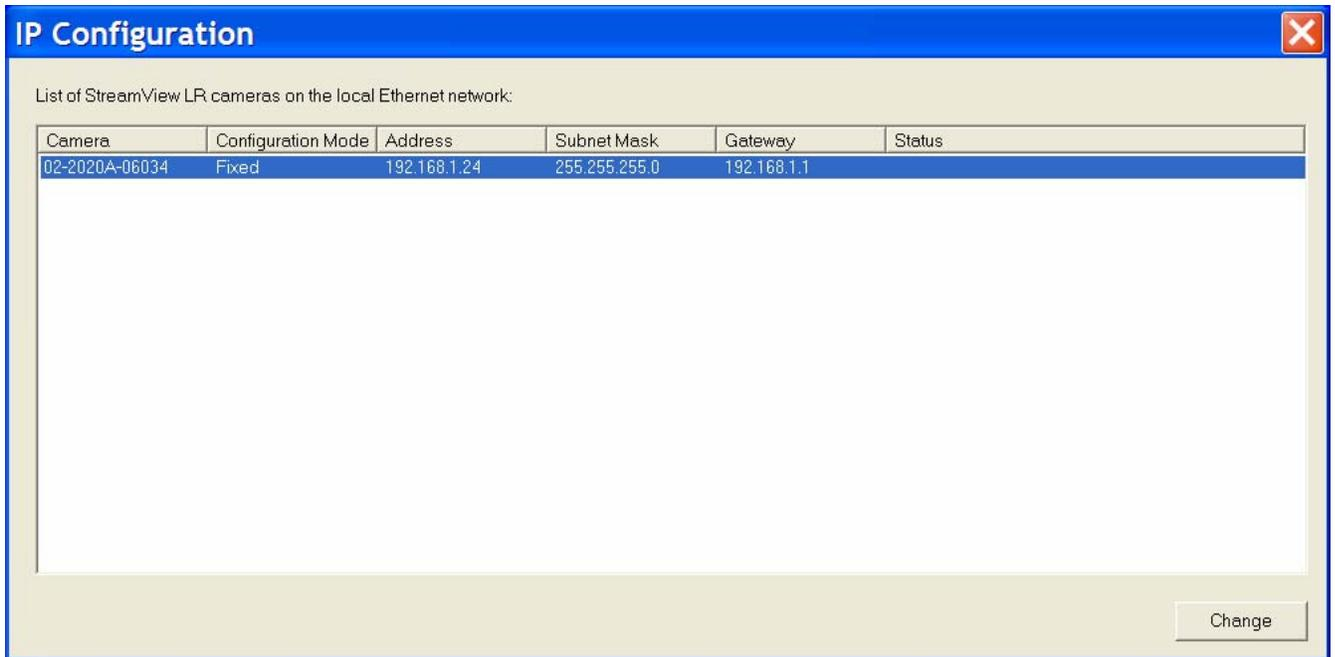
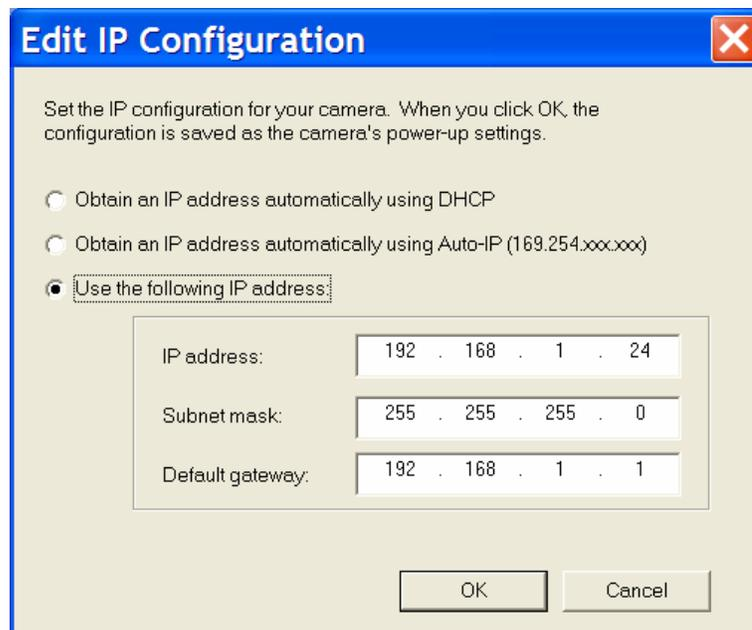

Figure 2 StreamView-LR network configuration auto-discovery window.
Figure 3 Editing StreamView-LR IP configuration.
5. If you wish to change the camera IP address (e.g.-when a conflict exists on a local area network), double-click on the "StreamView-LR NetworkConfig" icon that was installed on your desktop during installation. The screen of Figure 2 will appear. StreamView-LR supports auto-discovery so that every camera connected to the host (either directly or through a network) will show up on the window above. To change the network configuration properties of a camera, select that camera and click [Change]. The screen of Figure 3 below will appear. If StreamView-LR does not appear on the list, cancel the StreamView-LR Network Config app and start it again.
When the StreamView-LR application is started, the default “Play” window appears as shown in Figure 2. Video files can be opened and played in this mode whether a camera is attached or not. AVI files must be 8-bit (monochrome) or 24-bit (color) and are limited to a 2-GB file size. The codec for the AVI file being played must be available on your computer. The sections below describe how to set up each mode for optimal data acquisition and display.
The “Capture” window is shown below. To access this page, click on the [Camera-->Open Camera] menu and the auto-discovery window of Figure 2 appears. Select the camera of choice, click [OK], and connection will be established. The Open Camera command will search for all cameras connected either directly or through a network. If StreamView-LR is not found, click [Refresh] to update the list. Once connected, StreamView-LR will begin acquiring and displaying images.
Clicking the [Stream] button of Figure 3 brings up the Stream Wizard and starts the process of streaming video to either memory or disk array. Because the data bandwidth depends on network connection, host speed and resources, and Windows operating system, there is no guarantee that frames will not be dropped when recording over a long period of time. Typically, with 9,000 or larger MTU sizes and a sufficiently fast host processor (>2-GHz), no frames will be dropped even over several hours of recording. The StreamView-LR software reports the number of dropped frames per recording session but does not indicate where in the recording session the drops occurred.